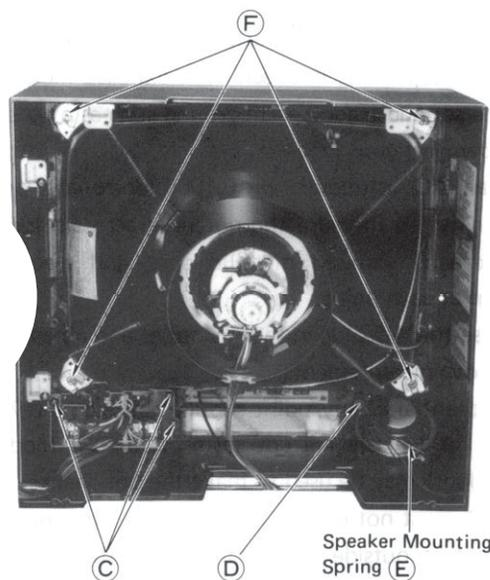

Figure 4
1. Remove 3 (C) screws shown in figure 4.
1. Remove 1 (D) screw and remove speaker mounting spring (E).
2. Remove the speaker shown in figure 4.
1. Remove 4 (F) screws and remove the CRT shown in figure 4.